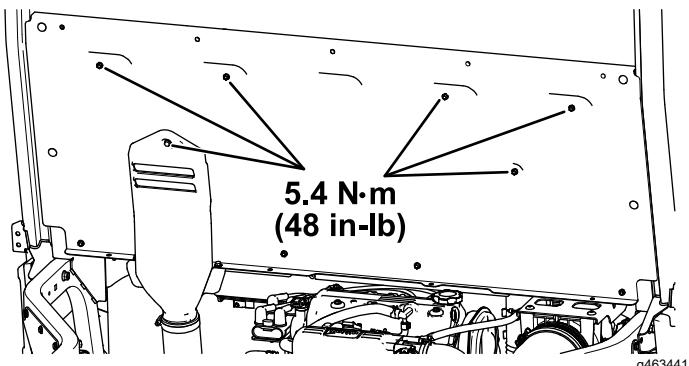

Figure 68
H. Torque the 11 hex-washer head bolts (1/4 x 3/4 inch) and the captive bolt attached to the CVT-intake hood to 5.4 N·m (48 in-lb) as shown in Figure 68.